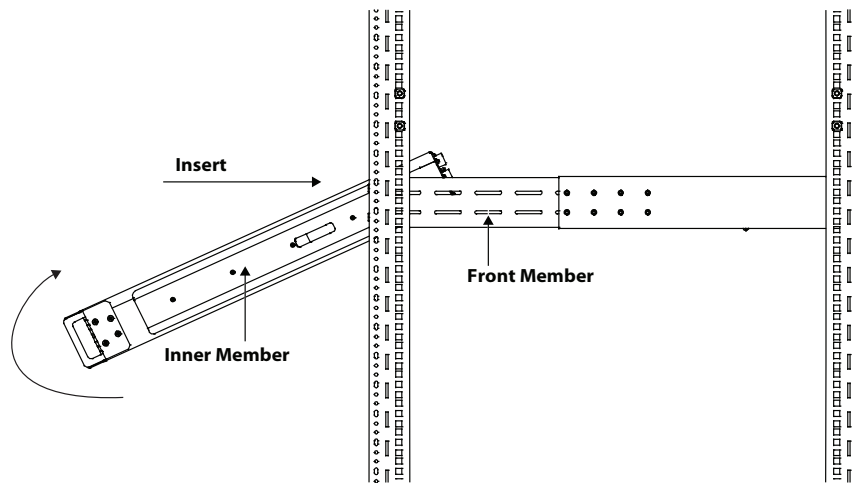

Figure 14: Insert the UPS
9. Insert the UPS, with inner members attached, into the bracket assemblies by inserting the top and bottom edges of the inner members into the top and bottom curved tracks of the front members. Slide the UPS into the rack as shown in Figure 14.